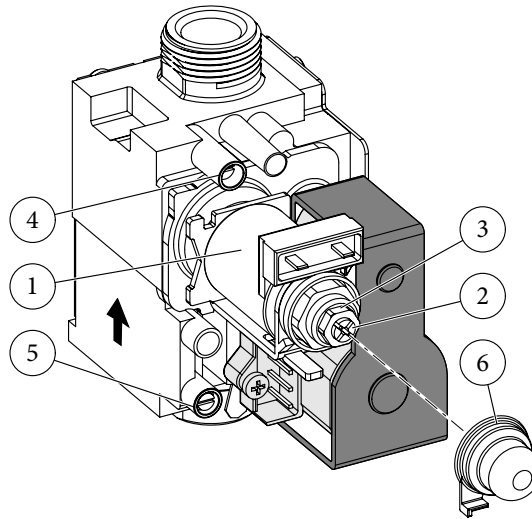

Fig. 3-3
N.B.: all boiler adjustment operations must be carried out by an authorised company (e.g. Immergas After-Sales Assistance). Burner adjustment must be carried out using a differential "U" or digital type pressure gauge connected to the gas valve outlet pressure point (part. 4 Fig. 3-3), keeping to the pressure value given in the table (Par. 3.16) according to the type of gas for which the boiler is prepared.
- With the brass nut (3 Fig. 3-3) adjust the boiler nominal output, observing the maximum pressure values stated in the tables (Par. 3.16) depending on the type of gas.
- Adjust the boiler minimum heat output in the domestic hot water phase (Fig. 3-3).